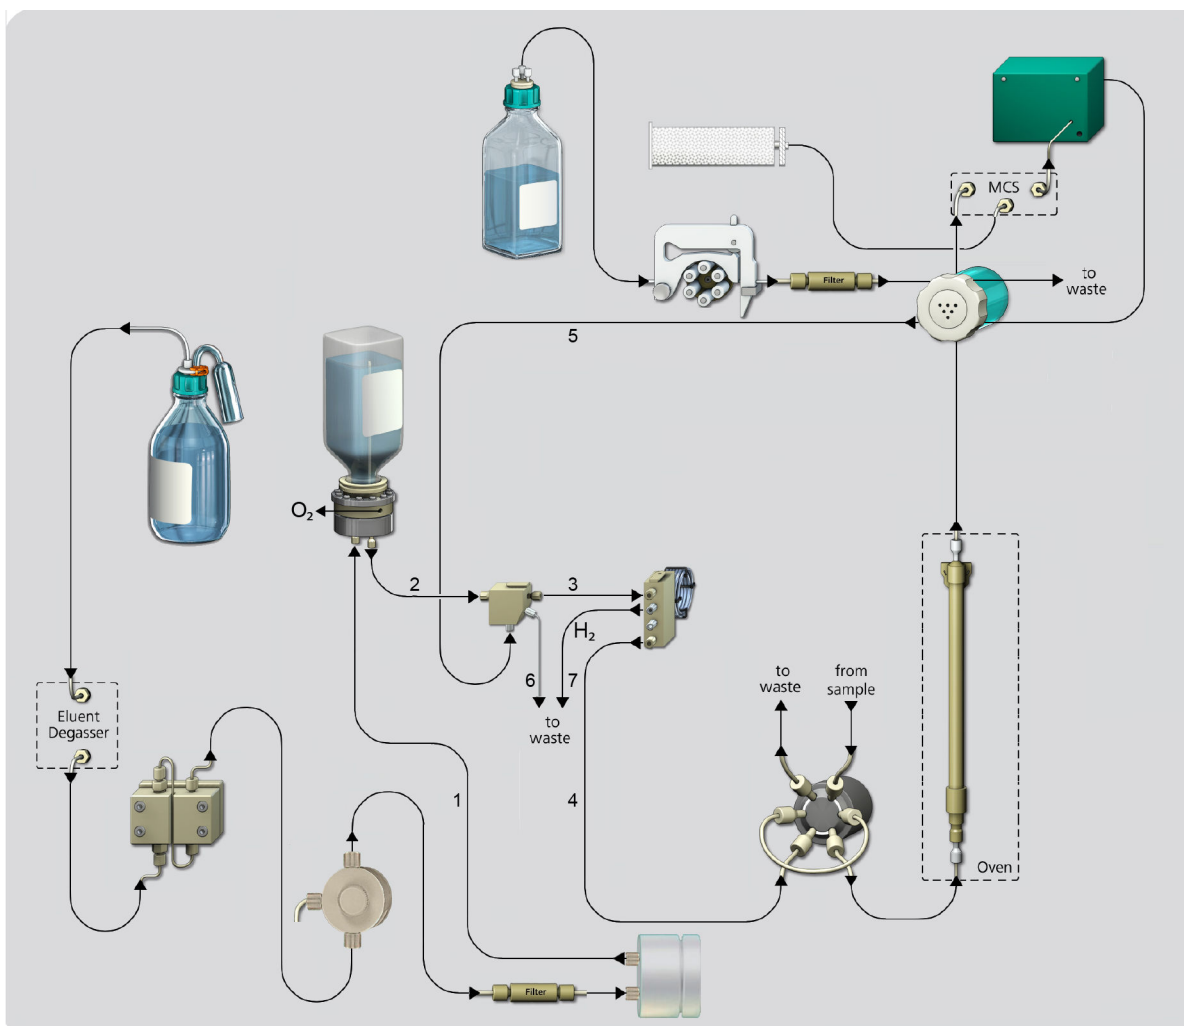

Figure 17 948 Continuous IC Module with conductivity detection and SeS – Flow path with STREAM
- STREAM (*see figure 17, page 34*):